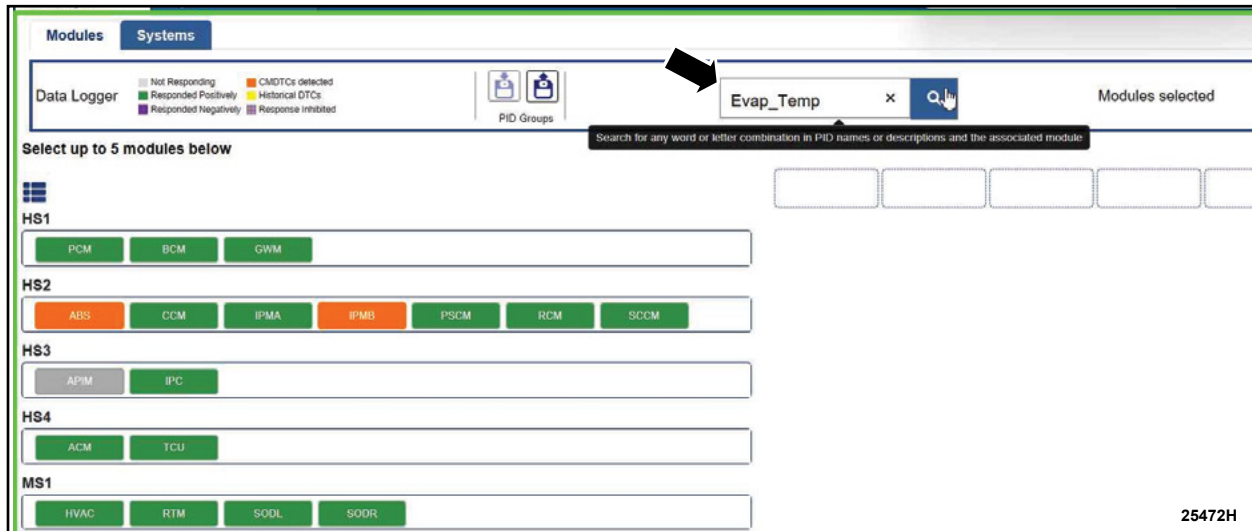

FIGURE 8
17. Use the search bar, enter **EVAP_TEMP** and then click **SEARCH**. See Figure 8.